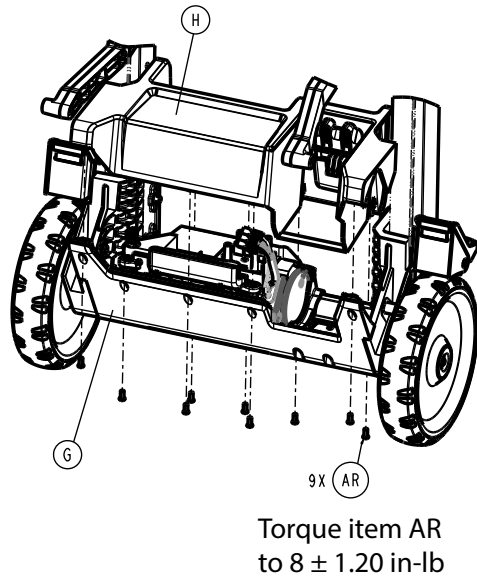

Figure 4 –
5. Using a T15 Torx driver, remove the nine pan head thread forming screws (AR) that secure the power box upper cover (H) to the lower cover (G) (Figure 4). Save the screws.